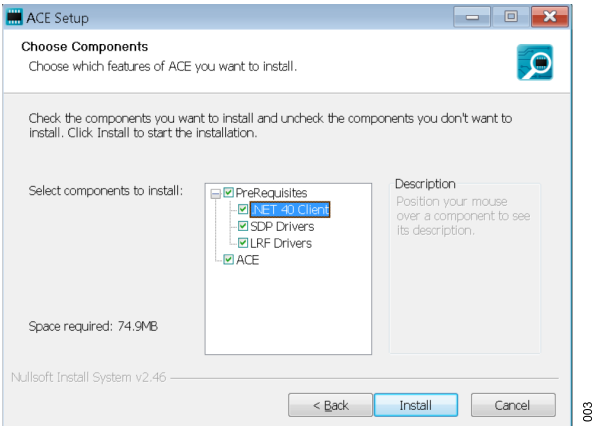

Figure 3. Required Driver Installations with the ACE Software
- 3. Install the latest version of the **ACE Software** from the software web page. During installation, ensure that the **.Net 4.0 Client**, **SDP Drivers**, the **LRF Drivers** components are checked off as well (see Figure 3).